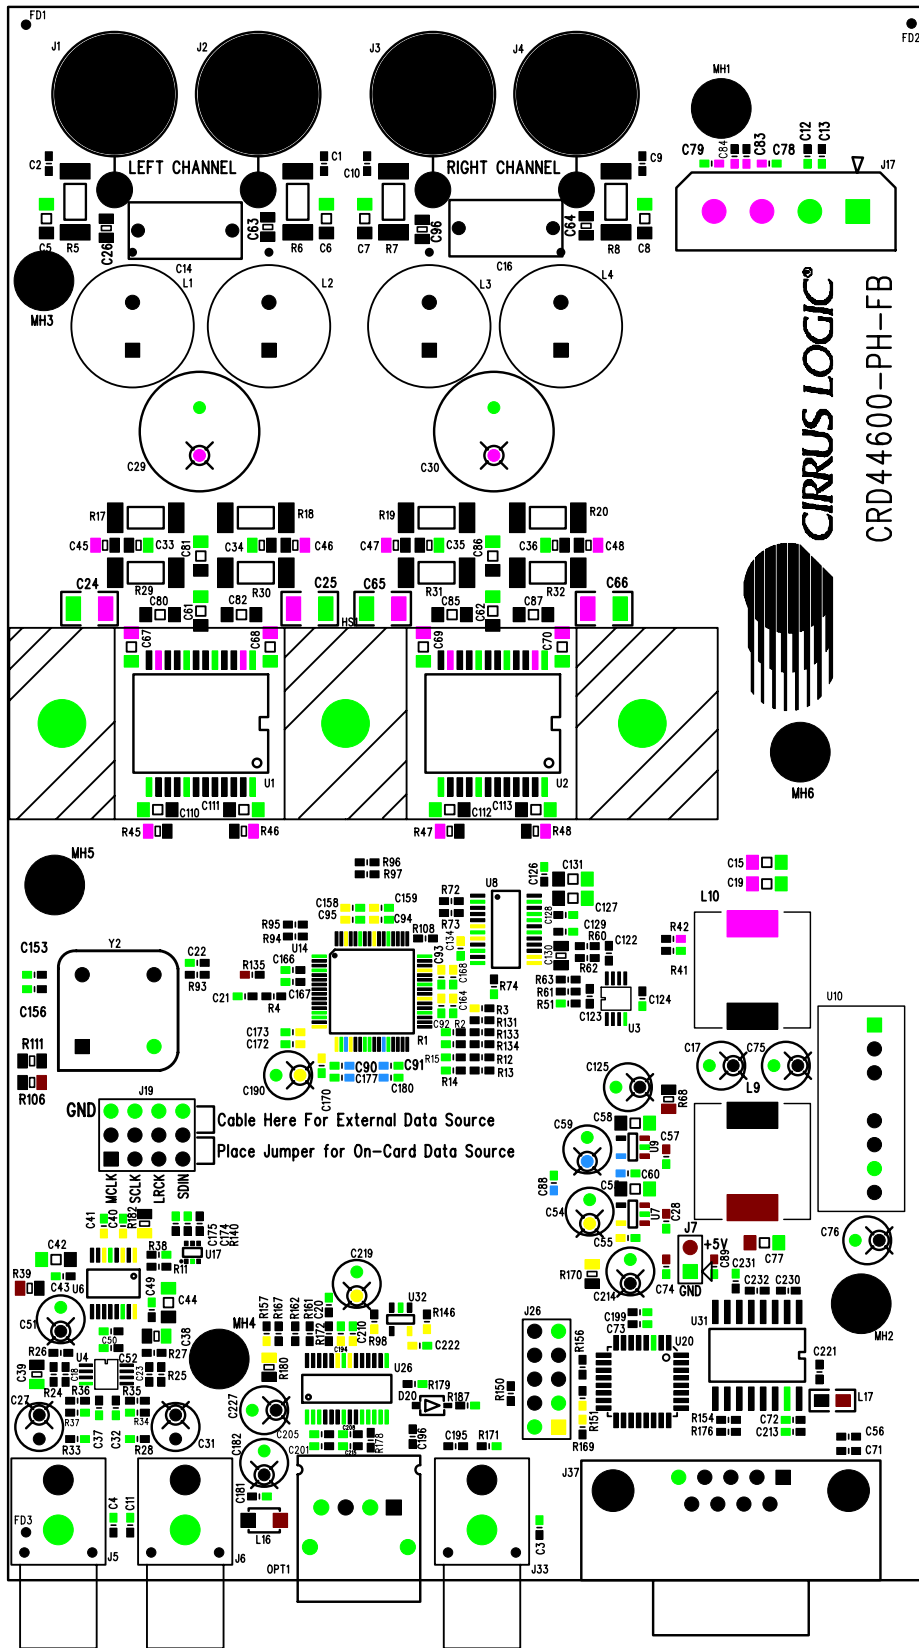

Figure 15. Silk Screen Top
Proper power supply decoupling is one key to maximizing the performance of a Class-D amplifier. Because the design uses an open loop output stage, noise on the power supply rail will be coupled to the output. While the PSR functionality of the CS44600 helps reduce power supply noise feedthrough to the output, careful decoupling of the power stage supply rails is essential. Referring to Figure 15, the top side of the CRD44600-PH-FB PWM amplifier board, good decoupling practice is shown. Notice that the 0.1  $\mu$ F ceramic capacitors are as close as physically possible to the power pins of the TDA8939. The ground side of the capacitors is connected directly to top side ground plane, which is also used by the power supply return pins. This keeps the high frequency current loop small to minimize power supply variations and EMI. 470  $\mu$ F electrolytic capacitors are also located in close proximity to the power supply pins to supply the current locally for each channel. These are not required to be expensive low ESR capacitors. General purpose electrolytic capacitors that are specified to handle the ripple current can be used. The real time PSR feedback of the CS44600/CS4461 can greatly attenuate the induced voltages due to the power supply ripple current.
- Each output of the TDA8939 includes “snubbing” components. For example, OUT1 of U1 includes snubber components R18/R30 (5.6  $\Omega$ ) and C34/C46 (560 pF). These components serve to damp ringing on the switching outputs in the 30-50 MHz range. The snubbing components should be as close as practical to the output pins to maximize their effectiveness. Again, refer to Figure 15 for the preferred component layout.
- A separate ground plane with a capacitively coupled electrical connection to the chassis and which surrounds the speaker output connector should be implemented. This allows the speaker outputs to be AC coupled to the chassis just before they exit the chassis from the speaker connector. Again, refer to Figure 15 for the preferred component layout.